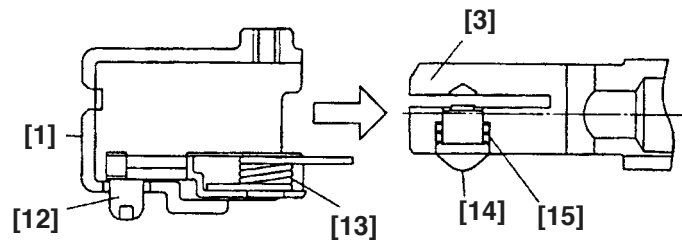

Fig. 8
(1) Mounting the saw blade mount (Figs. 8, 9 and 10)